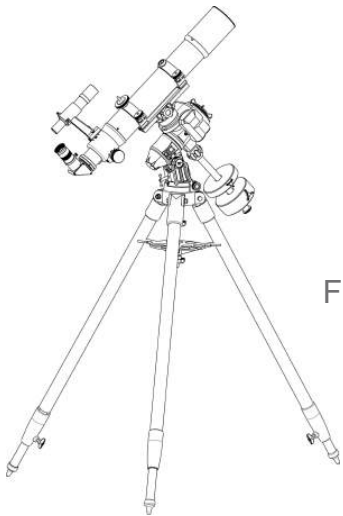

Fig. 5
2.1 Counterweight Bar Position (Fig.5 to Fig.7)
1. The EQ-AL55i Pro mount offers two mounting positions for the counterweight bar. The classic position is suited for higher latitudes (Fig.5).